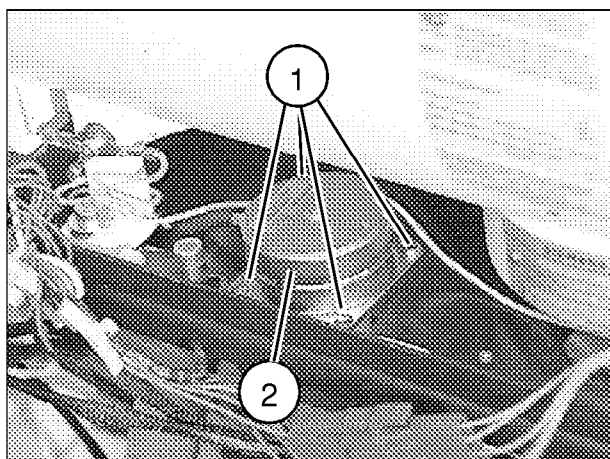

Fig. 8
- Remove the 4 screws shown in (1/Fig. 8) (if necessary, remove the screws from the X-ray tube and lift it up).
- Take the old motor out (2/Fig.8).